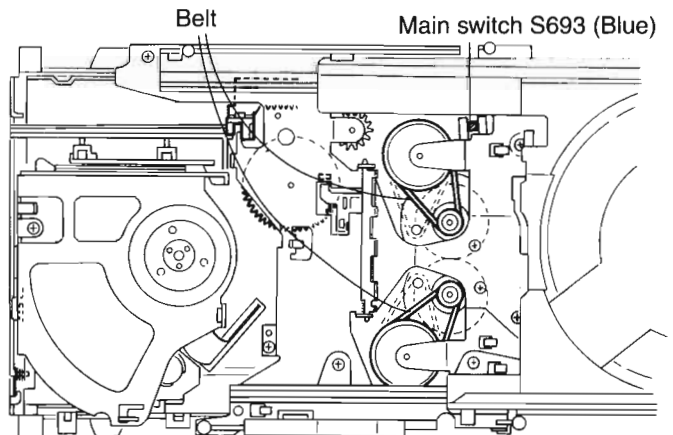

Fig. 12
- In principle, this P.C. board should be reassembled according to the opposite removing steps. For mounting the CD traverse mechanism control & servo P.C. board, insert the main switch (blue) on the P.C. board into the position in Fig. 12.